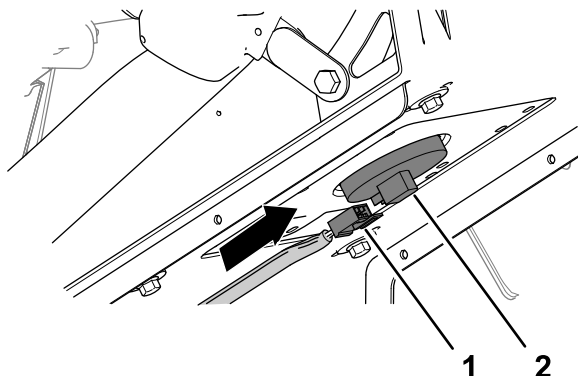

Figure 223
6. Plug the 2-socket connector of the machine wire harness into the connector for the seat switch until the connectors latch securely (Figure 223).